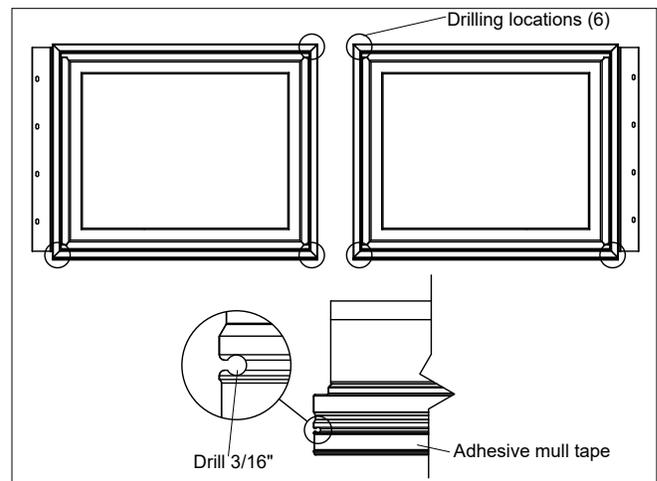

Figure 6
- Lay the two direct glaze polygons, in-sash transoms, casements or awnings that will be mulled above the lower assembly units in the desired mulling configuration (interior facing up). Remove nauling fin from sill and side jambs that will be mulled together. If mulling polygons above lower assembly drill out the outer edges of the sill nauling fin/drip cap kerfs on each corner and head jamb at mullion with a 3/16" drill bit. See figure 6. Clean filings out of kerf. This will help facilitate installation of the mulling pin. Apply mull sealing tape the full length of the jamb ensuring that it is located 1/4" (6) from the exterior edge of the Ultrex frame as shown in figure 6.